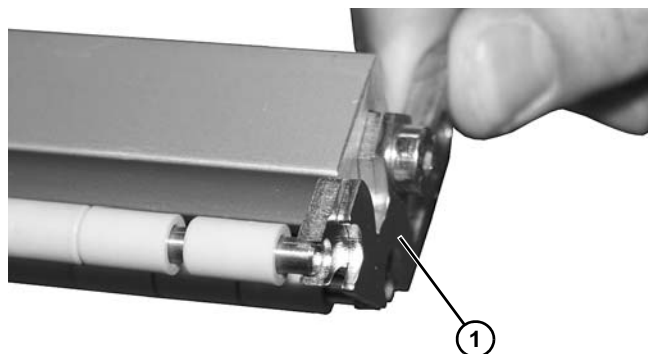

**Figure 106**
5. Remove lower screw (**Figure 106, item 1**) and remove tail nut bar (**Figure 106, item 2**) and side plate (**Figure 106, item 3**).
During reassembly, make certain that the tail nut bar nipple (**Figure 106, item 4**) is inserted into the support bar hole (**Figure 106, item 5**).
8. Assemble and install head plate in reverse order of removal. Use a hex-key wrench to tighten lower screw (**Figure 106, item 1**) to 30 in-lb (3.4 Nm). Leave two fastening screws (**Figure 105, item 2**) loose for belt tensioning.